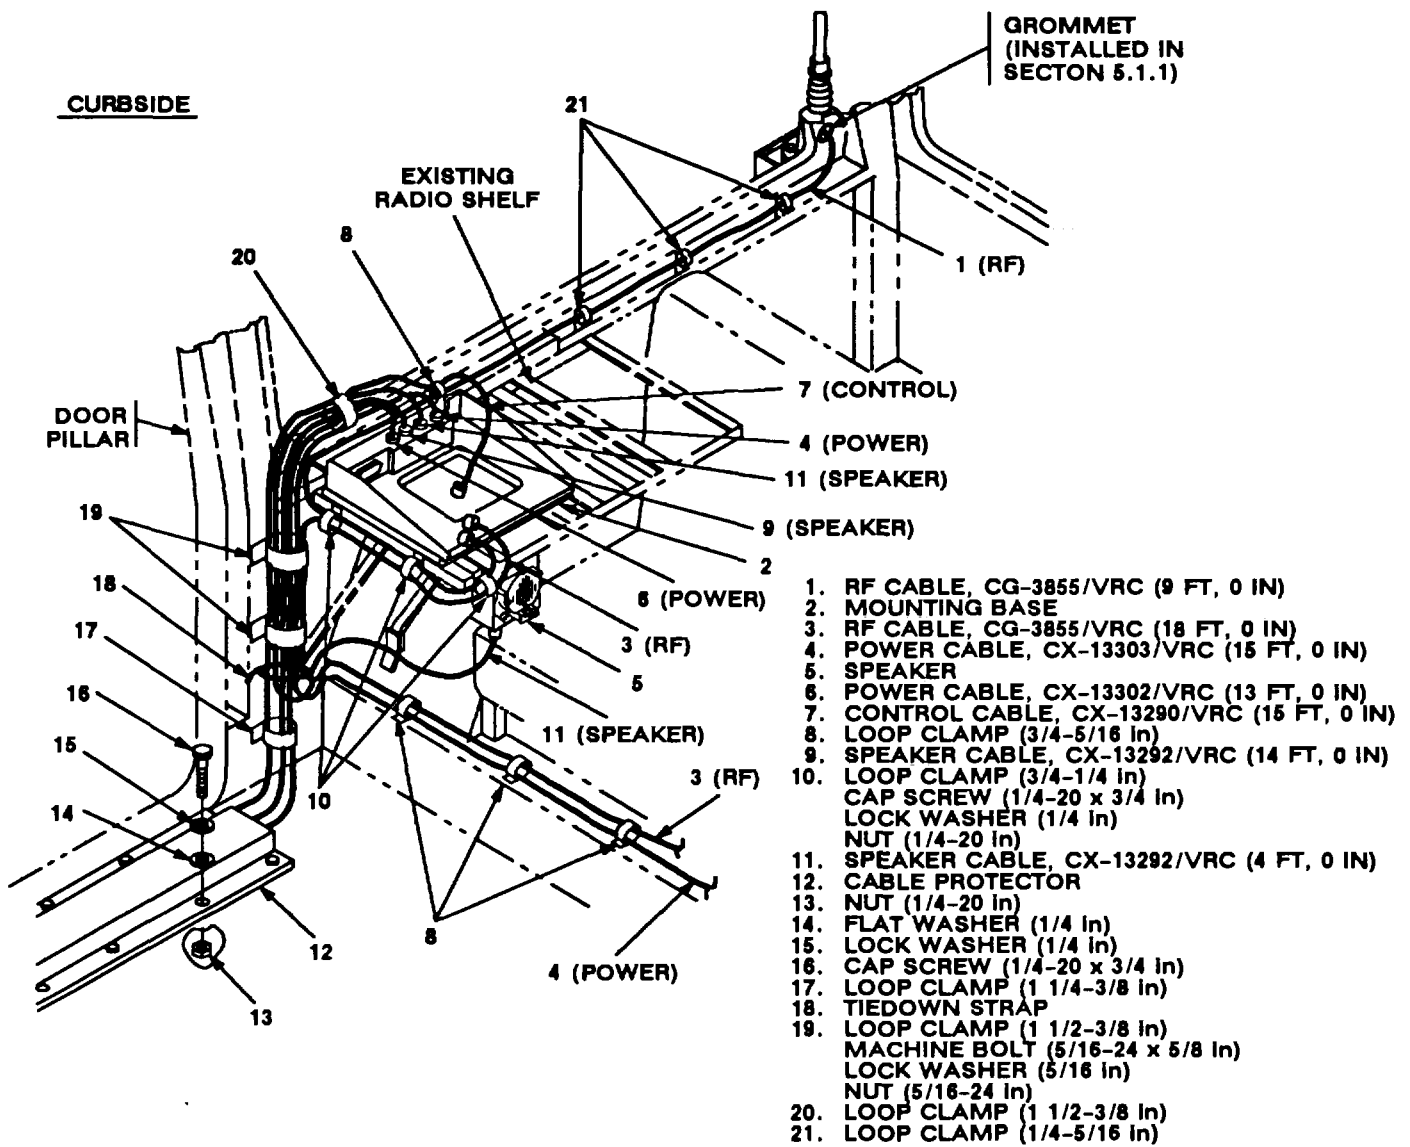

Figure 5-8(3). Cable Installation: Rear Curbside Passenger Area
| ao. | Speaker cable connector P1. | (11) Connect and secure to speaker (5) connector J1. See figure 5-8 (3). |
| aq. | Loop clamp (17) and existing mounting hardware. | Wrap clamp around power cable (6), speaker cable (9) and control cable (7); then install to existing mounting hole in door pillar. See figure 5-8 (3) for location(s). |